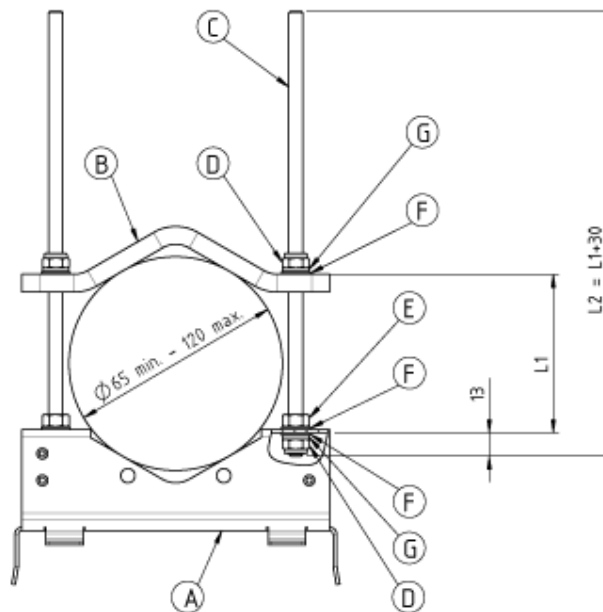
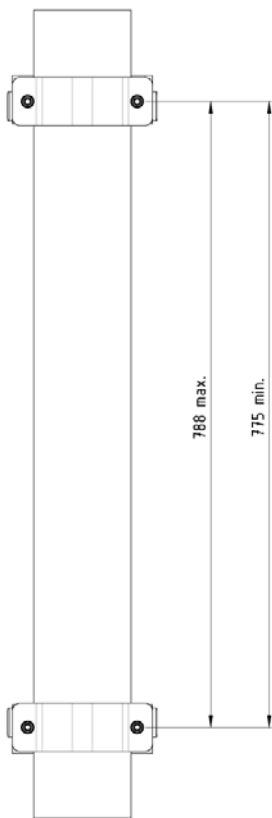

figure 4-6 Pole mounting – with brackets
figure 4-7 Pole mounting - pitches
Screw a hexagon nut (E) to the threaded bolt and place a flat washer (F) on it. Insert this side of the bolt into the mounting bracket (A). Then, fasten the mounting bracket with a flat washer (F), split lock washer (G), and the locking nut (D). See figure 4-6 Pole mounting – with brackets.
2. Place the pre-mounted brackets with threaded bolts to the pole or post, slide the counter bracket (B) on the threaded bolts and fasten the kit with a flat washer (F), split lock washer (G), and the locking nut (D).
- Note:** When fastening the brackets make sure that they are installed congruently and not at an angle to each other. To determine the distance between the clamps refer to figure 4-7 Pole mounting - pitches.
3. Hang the Remote Unit into the upper bracket, insert it into the lower bracket (see chapter 4.1.3), and fasten it to the lower bracket with the M8x25 screws (H), split lock washers (G), and flat washers (F).